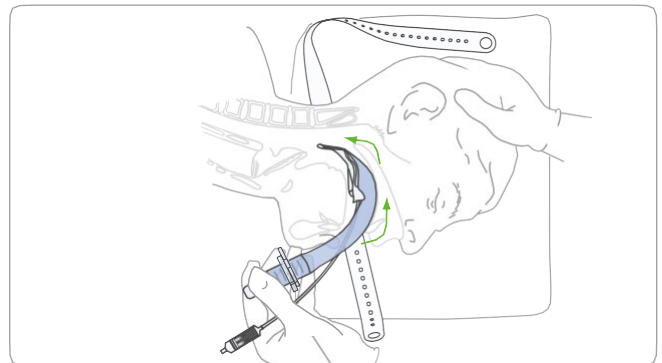

Figure 11. Slide the device inward with a circular motion, pressing against the contours of the hard and the soft palate
9. Slide inwards using a slightly diagonal approach (direct the tip away from the mid-line) as shown in **Figure 11**.